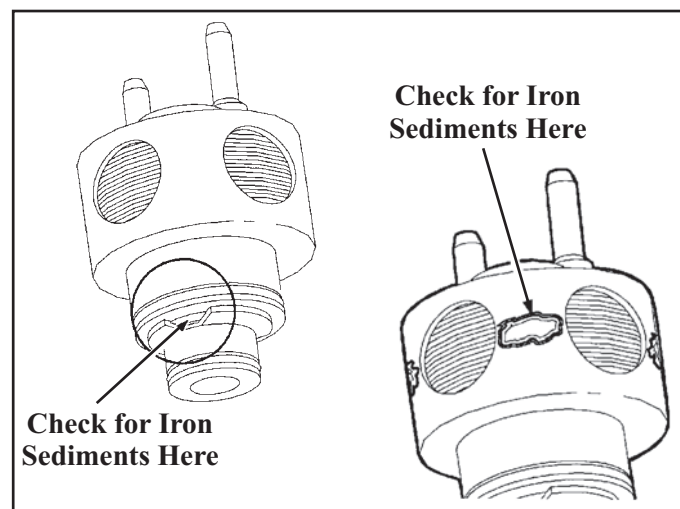

Figure 182
14. Inspect thoroughly the actuators for metal deposits in the locations shown in Figure 182 and replace if necessary.